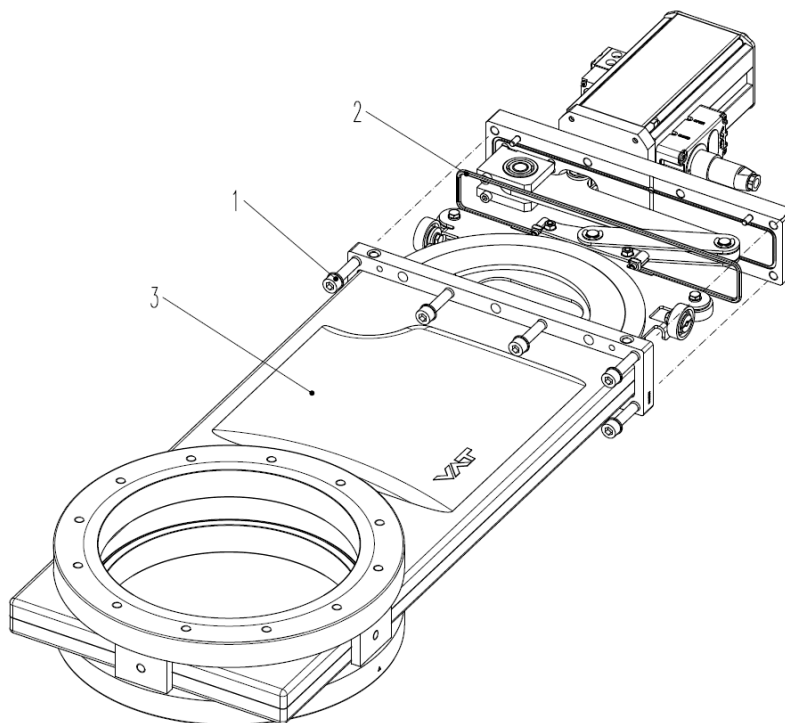

Figure 7-2
7. Remove screws (1) according to «Figure 7-2» on page 19.
8. Lift actuator / mechanism unit carefully from body without touching the body wall; see «Figure 7-2» on page 19. Use only the eyebolt threats; see dimensional drawing.
18. Mount screws (1) according to «Figure 7-2» on page 19.